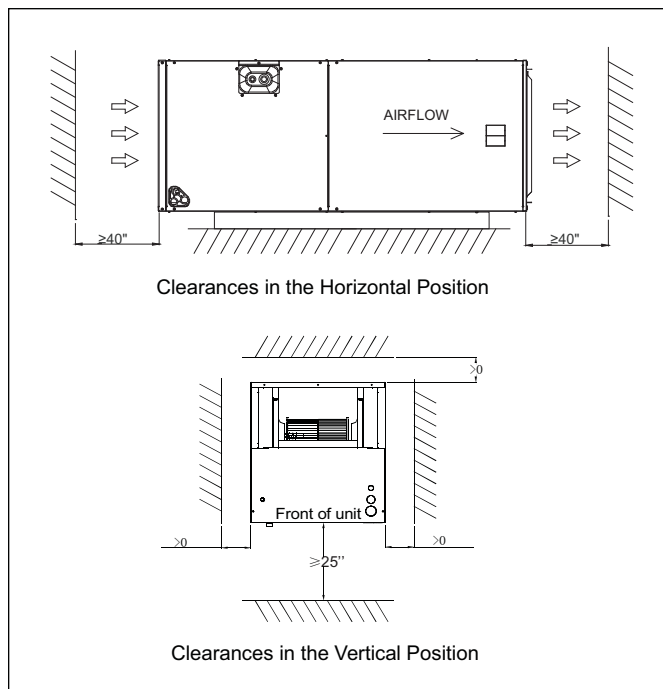

Figure 2 Required Clearances
- ▶ The installed unit must have the required clearances as shown in Figure 2. Failure to follow these instructions may result in equipment damage and/or premature equipment failure.